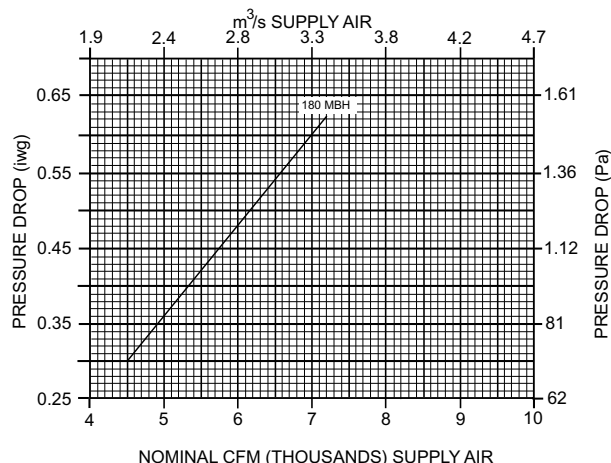

FIG. 9 - PRESSURE DROP ACROSS A DRY INDOOR COIL VS SUPPLY AIRFLOW
4. Knowing the pressure drop across a dry coil, the actual air flow through the unit and clean filters, can be determined from the curve in Figure 9.